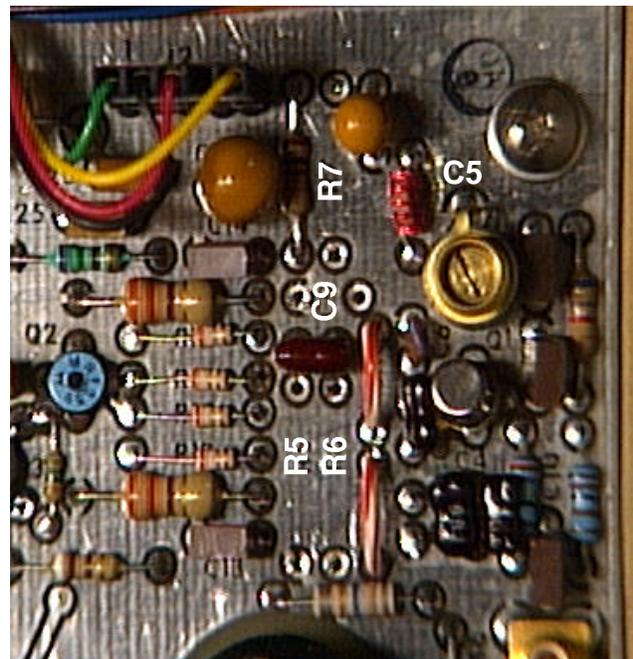

Figure 3.
*This is the oscillator and phase lock section of the L.O. assembly with the cover removed. The area highlighted is where the circuit modifications are. A close-up view of this area is shown in figure 3.*
Unsolder and **REMOVE** R5, R6, R7, and C9. See figure 3 for the location of these components.
Attach a +18 to +20 volt 0.5A regulated supply to the appropriate feedthroughs on the L.O. assembly (see figure 6), and adjust C5 (see figure 3), for the frequency of operation which is 102 times the crystal frequency.